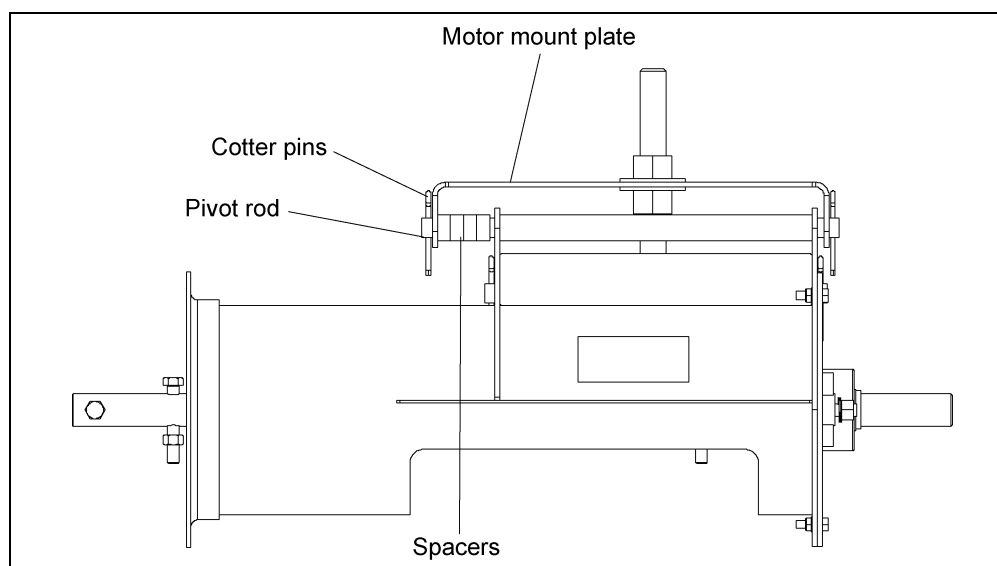

Figure 4L
- When the pivot rod begins to extend through the pivot tube install the spacers, BETWEEN the back plate and the inner face of the motor mount plate. *(See Figure 4L.)*